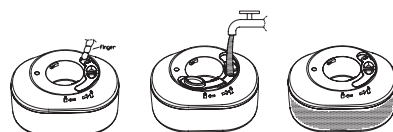

Figure 2
3. Take the water tank to a sink. Pull the rubberized water-fill cover to open and pour tap water from the tap into the water-fill opening until it reaches the Max water level in water tank (Figure 2). If water spills outside of the tank, or within the center water tank cavity, wipe it dry with a paper towel or cloth.